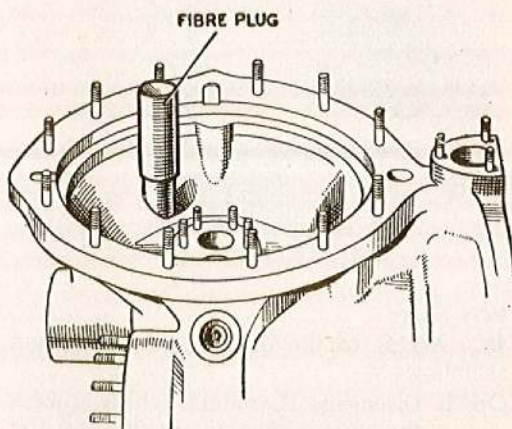
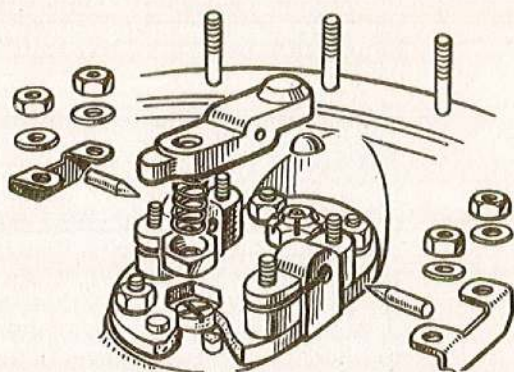

Fig. 10. Fibre blanking plug for amplifier valve chamber suction port
Fig. 11. Dismantled view of amplifier valve assembly
21. Insert the fibre plug (fig. 10), in the port in the amplifier valve chamber communicating with the pump suction, to prevent small particles of severed locking wire, nuts, screws, split pins, etc. from dropping into it during the stripping of the amplifier valve assembly (fig. 11).